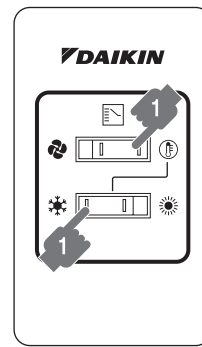

figure 7.1
- “” “” Cooling operation (Refer to figure 7.1)